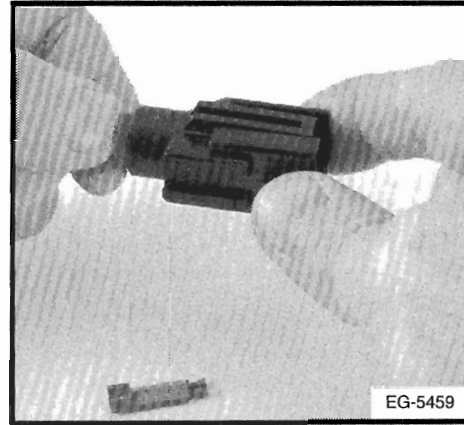

Figure 6-27. – Insert Insulation
2. Push the insulator over the wires into the connector body (if equipped) (Figure 6-27.).